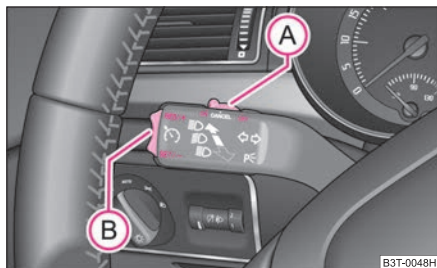

Fig. 131 Operating lever:
- Press the switch (A) ⇒ fig. 131 into the position **ON**.
- After the desired speed has been reached, press the rocker button (B) into the **SET** position.
- You can **increase** the stored speed without depressing the accelerator, by pressing the rocker button (B) ⇒ fig. 131 into the **RES** position.
The **Resumption** of the stored speed is achieved by releasing the brake or clutch pedal, on vehicles fitted with automatic gearbox only after releasing the brake pedal and after shortly pressing the rocker button **(B)** ⇒ page 121, fig. 131 into the position **RES**.
- Press the switch **(A)** ⇒ page 121, fig. 131 to the right into position **OFF**. ■